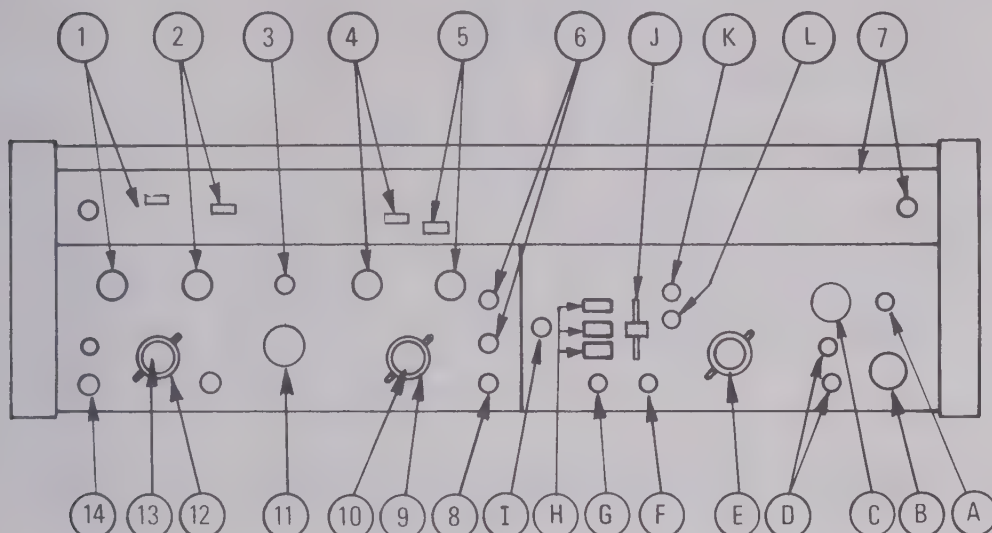

Fig. 1 Front panel controls and connectors
2. Front panel. Fig. 1 illustrates and explains the function of all front panel fixtures for both the mainframe (encircled numbers) and an r.f. unit (encircled letters). Additional information regarding the proper use of the controls is provided in the operating procedures.